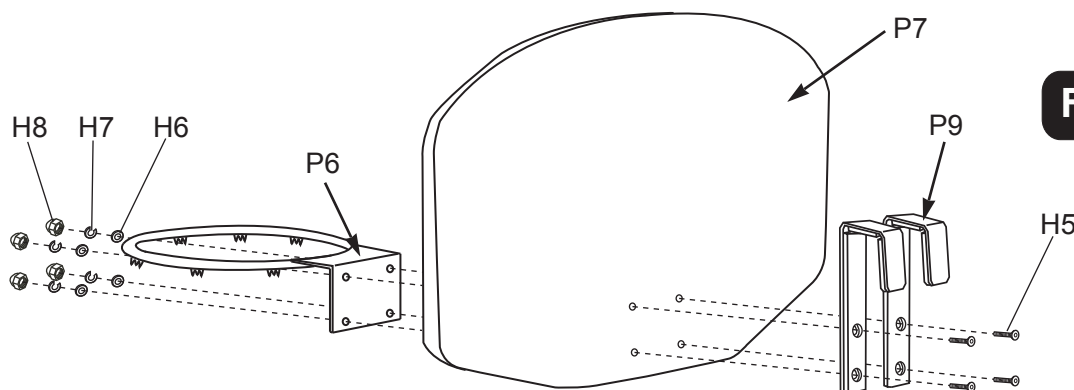

Figure 7
3. With the help of another adult, attach Rim **P6** to Backboard **P7** and Goal & Backboard Mounting Bracket **P9**. Insert Allen Head Bolts **H5** through Goal & Backboard Mounting Bracket **P9**, Backboard **P7** and Rim **P6**, then secure using Flat Washers **H6**, Spring Washers **H7** and Acorn Nuts **H8** as shown in **FIGURE 7**.